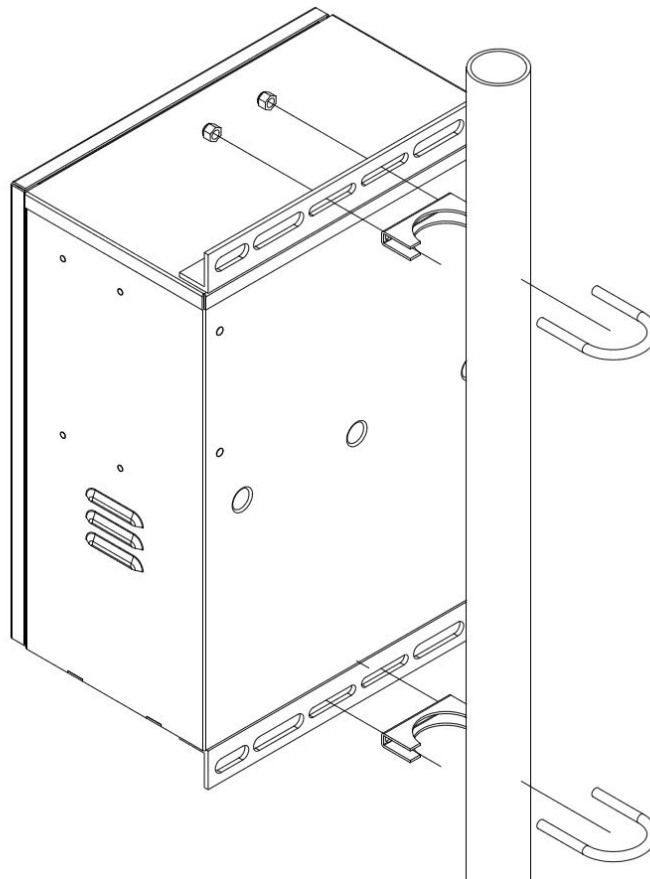

FIGURE 3: M-STYLE CONTROL/BATTERY ENCLOSURE POLE MOUNTED INSTALLATION
- Hang the enclosure without batteries at the desired height using U-bolts (user supplied or available upon request) as depicted in FIGURE 3. For typical applications, place the top of the enclosure 52 - 72” from the ground. Tighten bolts using a 1/2” wrench to 10-12 ft. lbs. torque..